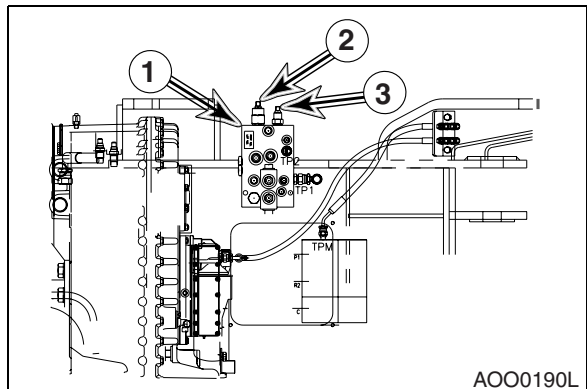

Figure 110
2. Adjust relief cartridge (3, Figure 110) on brake and pilot and fan motor supply valve (1, Figure 110). Relief pressure should be set at $28^{+3}_{-2} \text{ kg/cm}^2$ ($398^{+43}_{-30} \text{ psi}$).